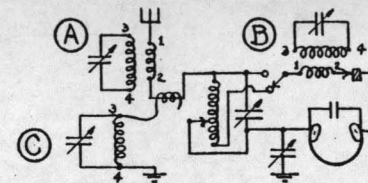

Fig. 13. Use of Wave Traps with the No. 2.
fluencing a primary and secondary, both of which are Aperiodic. This is given just as a variation. This is also the principle used in Fig. 13 (C). This was used in the old German Telefunken circuits in the early days of Radio.